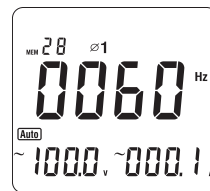

Figure 26
4. When measuring 3 phase 4 wires: (see figure 26, 27, 28)
- Press **SELECT** to choose the first phase  $\varnothing 1$ , see figure 26.